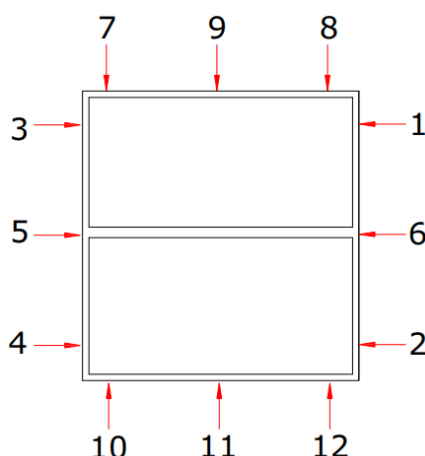

Figure 4 Sequence of the fixing points for fixed glazing
5. Level the right side of the frame and drill the first fixing point through frame. Correct sequence of the fixing points is shown in the figure 4.
6. Fix the frame with remaining fixing points (Figure 4). Support blocks must be added next to every fixing point. Tighten the screws.